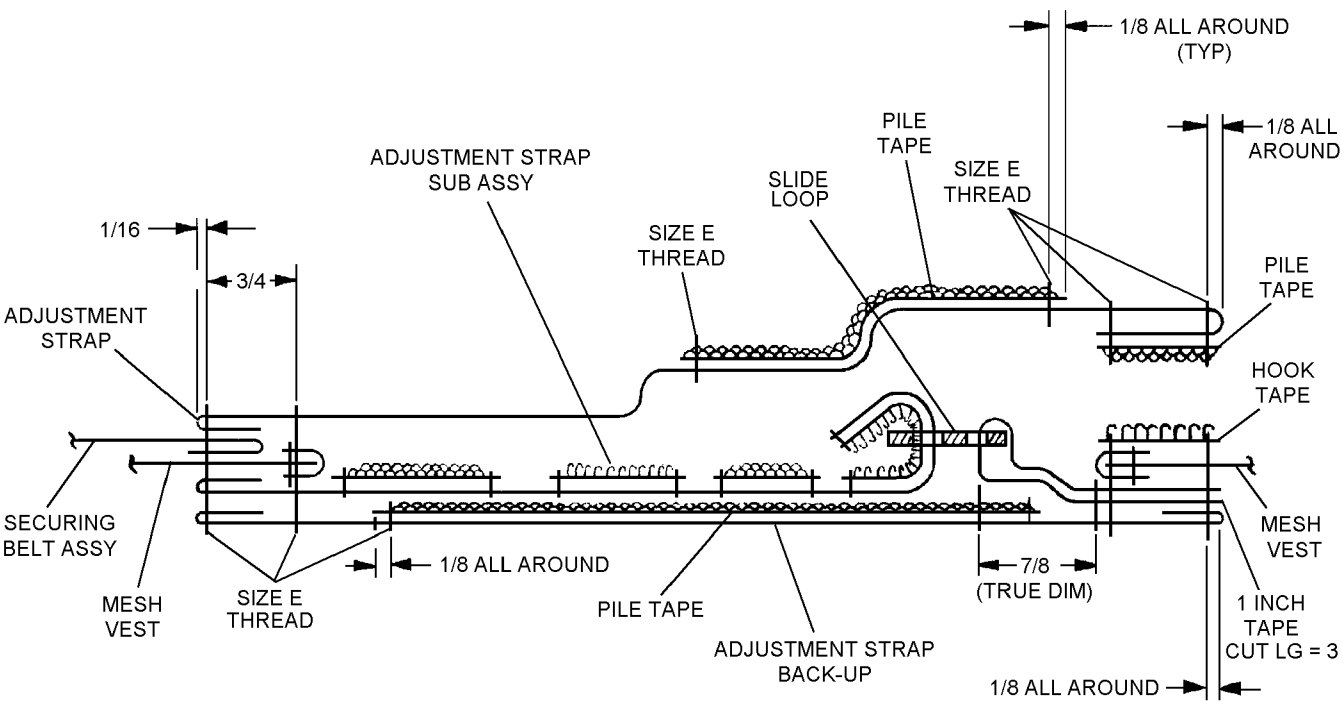

Figure 7-3. Back Adjustment Strap
1. Cut thread attaching cover flap to vest and damaged strap. Discard damaged strap. Refer to figure 7-3.